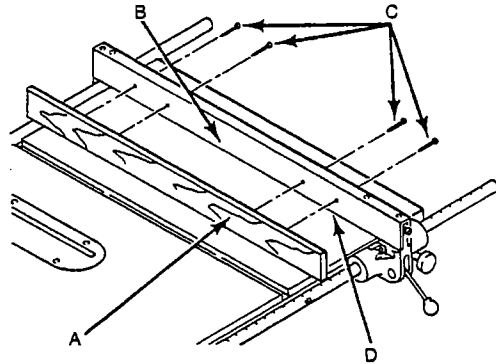

FIGURE 18
1. Attach wood-facing A to rip fence B, using four wood screws C (Figure 18).